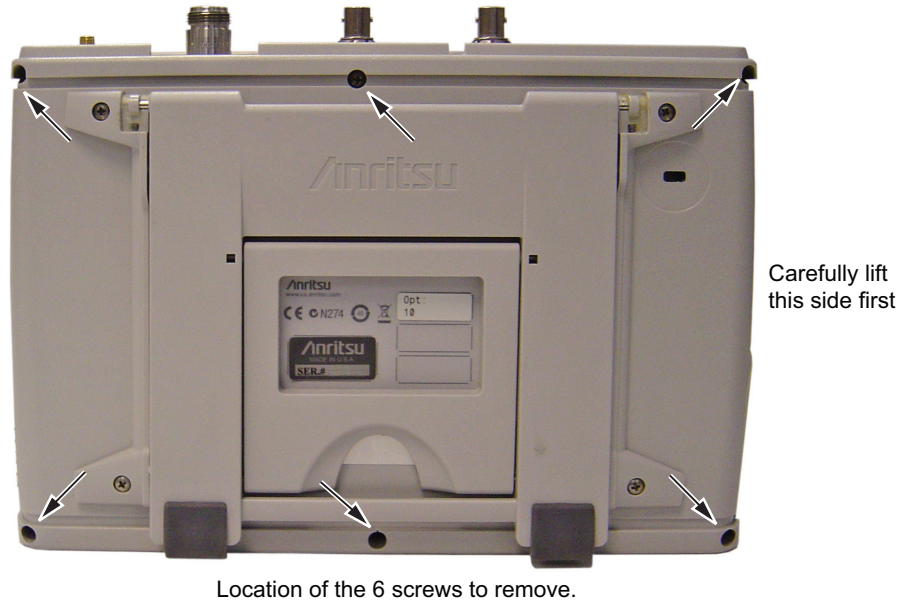

Figure 6-2. Remove the Four Screws
- Use a Phillips screwdriver to remove the six screws securing the two halves of the Site Master case together (Figure 6-2).